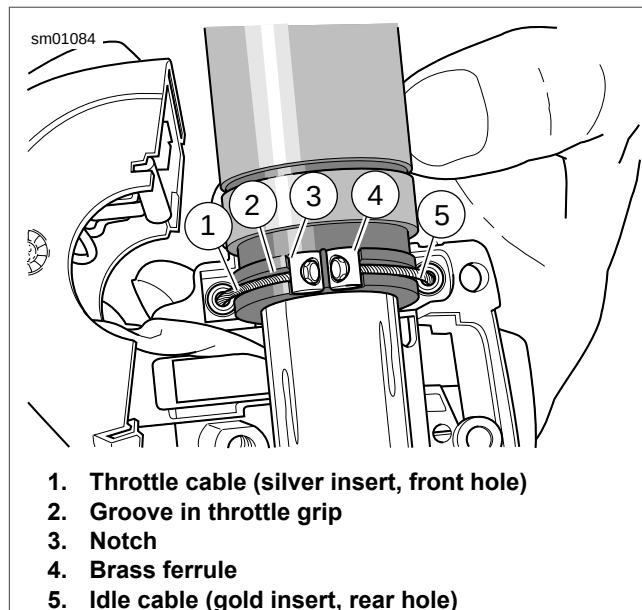

Figure 7-53. Throttle Cable Installation
10. See Figure 7-53. Position lower switch housing beneath the throttle control grip. Install the brass ferrules onto the cable so that the end fittings seat in the ferrule recess. Seat the ferrules in their respective notches on the throttle control grip. Verify that the cables are captured in the grooves molded into the grip.